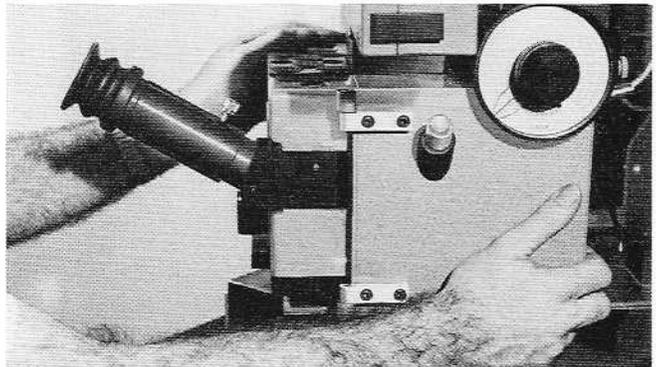

Figure 13. Rotating the Camera
**5.10 ROTATING THE CAMERA.** The camera can be rotated  $90^\circ$  to align the film properly for either slide or filmstrip formats so that material can be positioned upright on the copy table. Rotate the camera by turning the camera head clockwise to align it for filmstrip format (see Figure 13). When the camera is square with the carriage, an indexing stop can be felt. Rotating the camera does not change the film advance; to do this, the proper aperture must be used (see Section 5.12 CHANGING THE APERTURE).